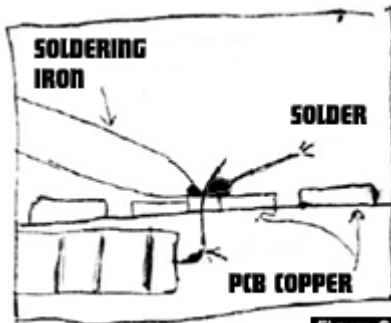

Figure 2
3. Use the tip to heat the component, then touch the solder to the component. Refer to the Figures 2 and 3.